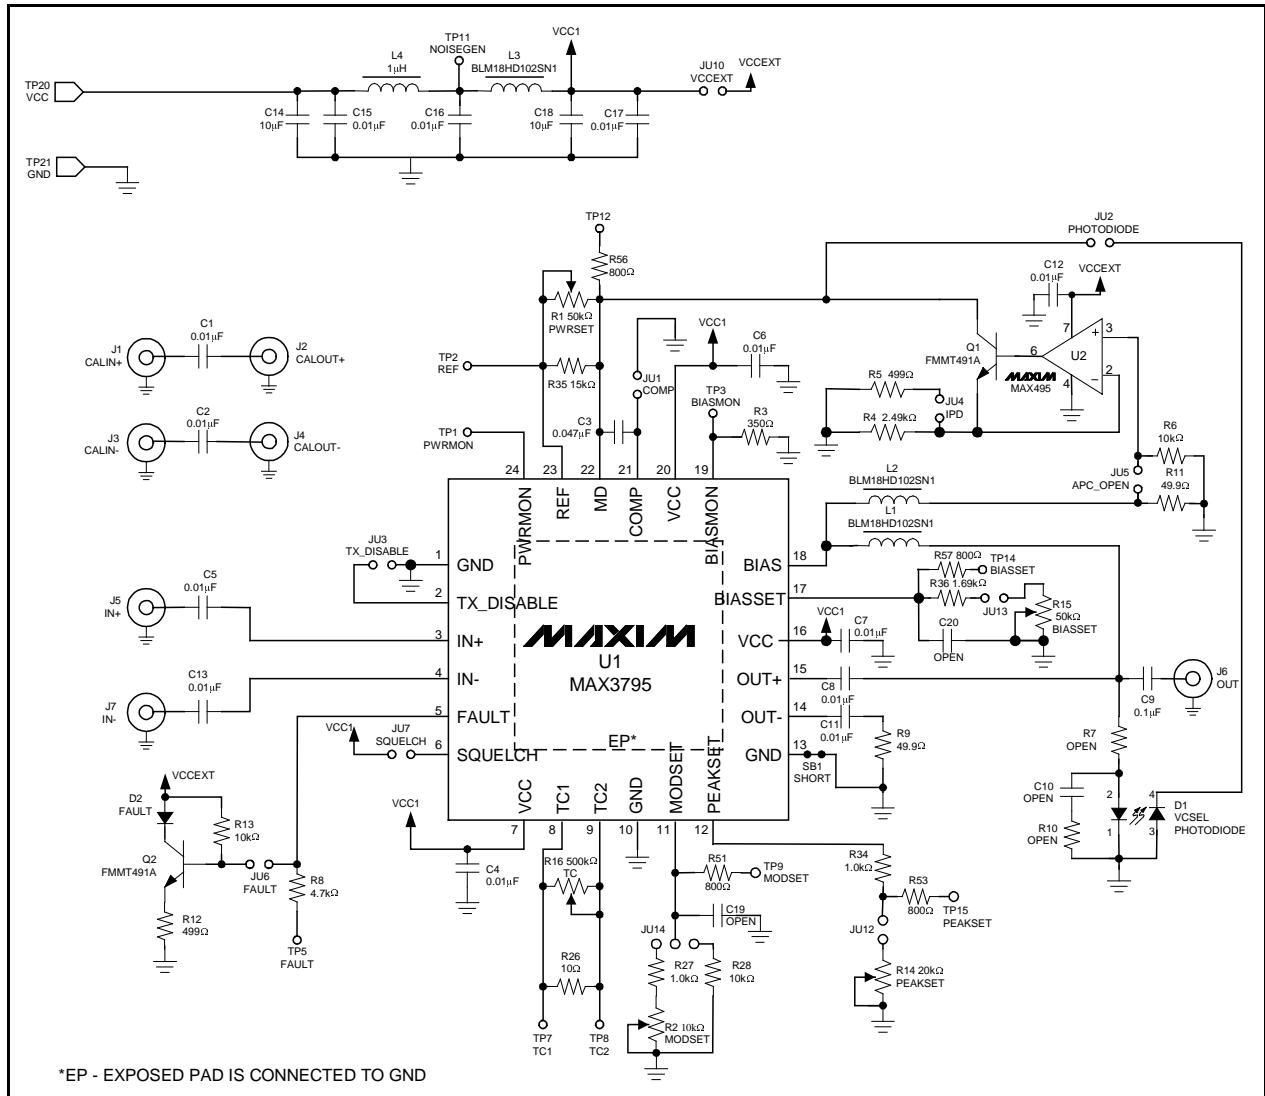

Figure 1. MAX3795 EV Kit Schematic
- 5) Connect a common cathode VCSEL as shown in figure 1. Keep leads short to reduce reflection.
- 7) Adjust R1, the RPWRSET potentiometer, for 10kΩ resistance between TP2 (REF) and TP12 (MD).